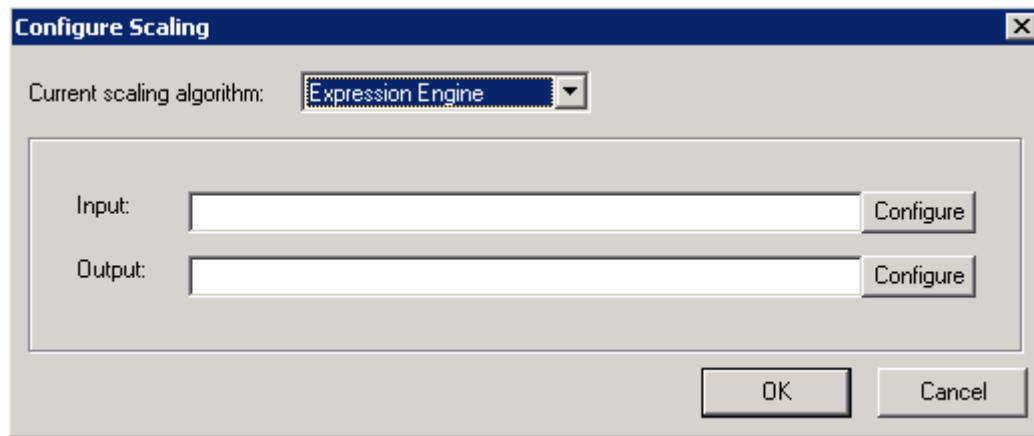

Figure 45 - Expression Engine Configuration
- Select the **Expression Engine** option (Figure 45).